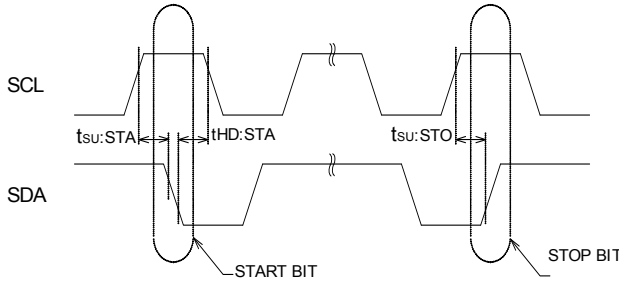

Fig.3 Synchronous Data Timing
- The BR24C21/F/FJ/FV continuously monitors the SDA and SCL lines for the START condition and will not respond to any commands until this condition has been met. (See Fig. 3 Synchronous Data Timing)
- A STOP condition can only be issued after the transmitting device has released the bus. (See Fig. 3 Synchronous Data Timing)